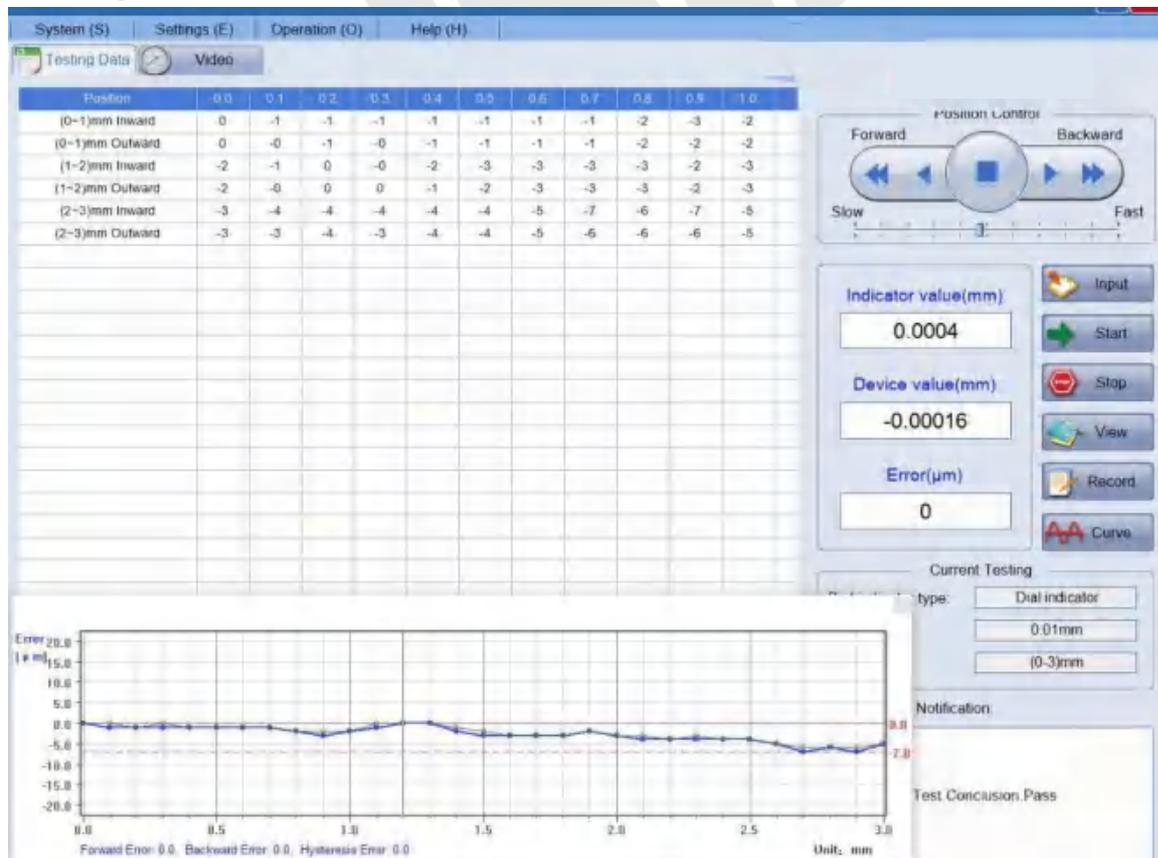

Figure 5-12 Measured data of dial gauge with graduation of 0.01 mm
7. By clicking the “Measured data” in the upper right corner, you can view the measured error of each point and error curves. See figure 5-12.